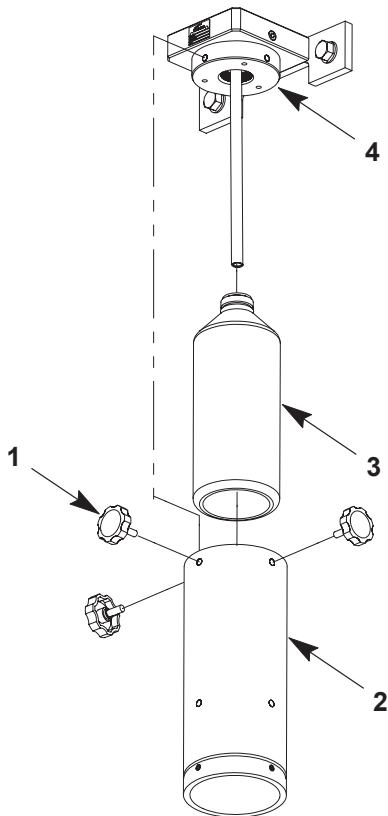

Figure 4 Installing an Ink Bottle
1. See Figure 4. Remove the thumb screws (1) securing the shroud (2) to the manifold (4).
2. Remove the cap from the ink bottle (3). If present, remove the foil seal from the ink bottle.
3. Install the ink bottle (3) as shown and tighten until it makes contact with the gasket in the manifold. Continue to tighten the ink bottle another  $\frac{1}{4}$  to  $\frac{1}{3}$  turn to compress the gasket.
4. Install the shroud (2) using the thumb screws (1). Tighten the thumb screws finger tight.